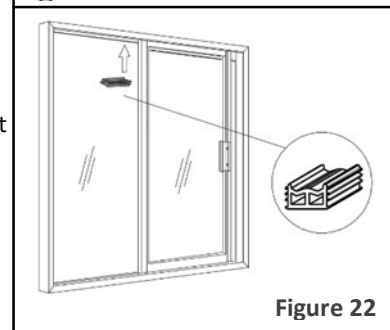

Figure 22
7.1 The panel stop bumper is installed in the header portion of the door frame in-front of the fixed panel at the far left or right (depending on operation) beside the jamb as shown (Figure 22).